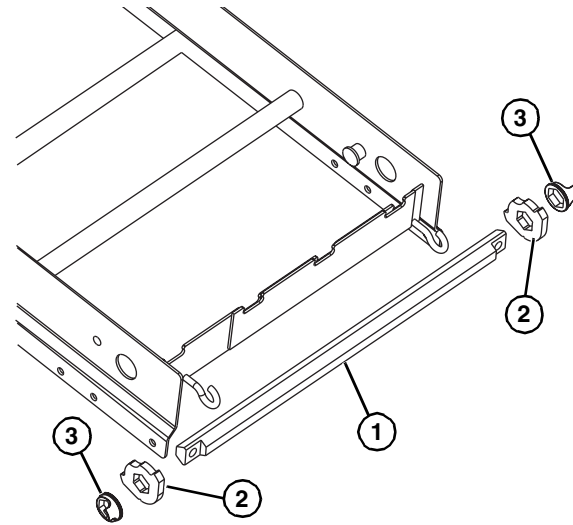

**Figure 16**
3. Insert the pull pins (Figure 16, item 1).